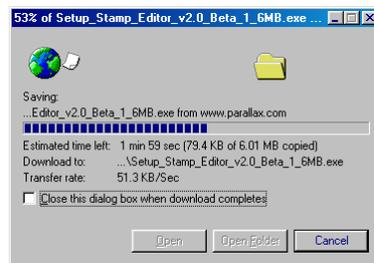

Figure 1-12
- √ Wait while the BASIC Stamp Editor installation program downloads (shown in Figure 1-12). This may take a while if you are using a modem connection.